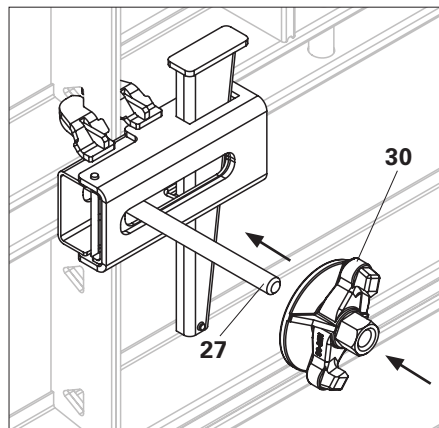

Fig. A4.07
4. Once the clamp is fixed at the panel joints, install the tie rod DW 15 (27) into the tie slot. (Fig. A4.07)
5. Put the wingnut counterplate DW 15 (30) and rotate clockwise. (Fig. A4.07) Perform the same operation on the opposite side.